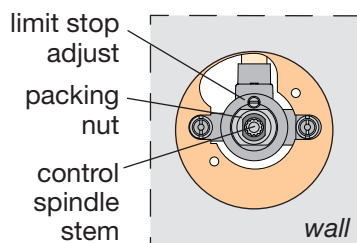

Figure 3 Limit stop screw
- Tighten packing nut for positive frictional resistance as handle is rotated from shutoff position across adjustment range. Reference figure 3 below.
- Turn limit stop screw clockwise until it seats. Reference figure 3.